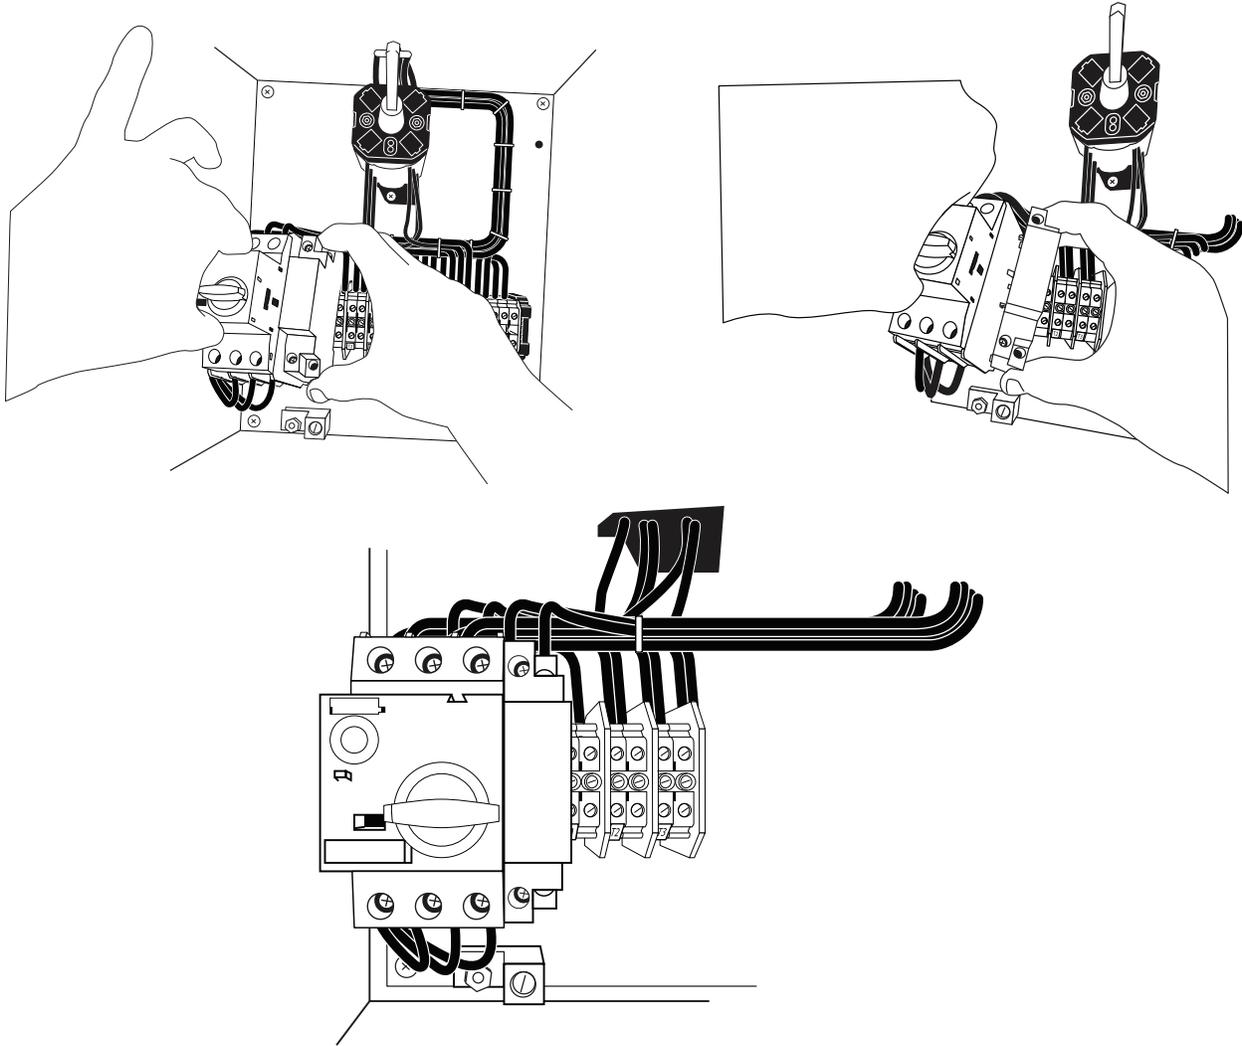

Fig. 129 – Connecting Shunt Trip Device to MMS
4. Install the shunt trip into the MMS as shown in Fig. 129.